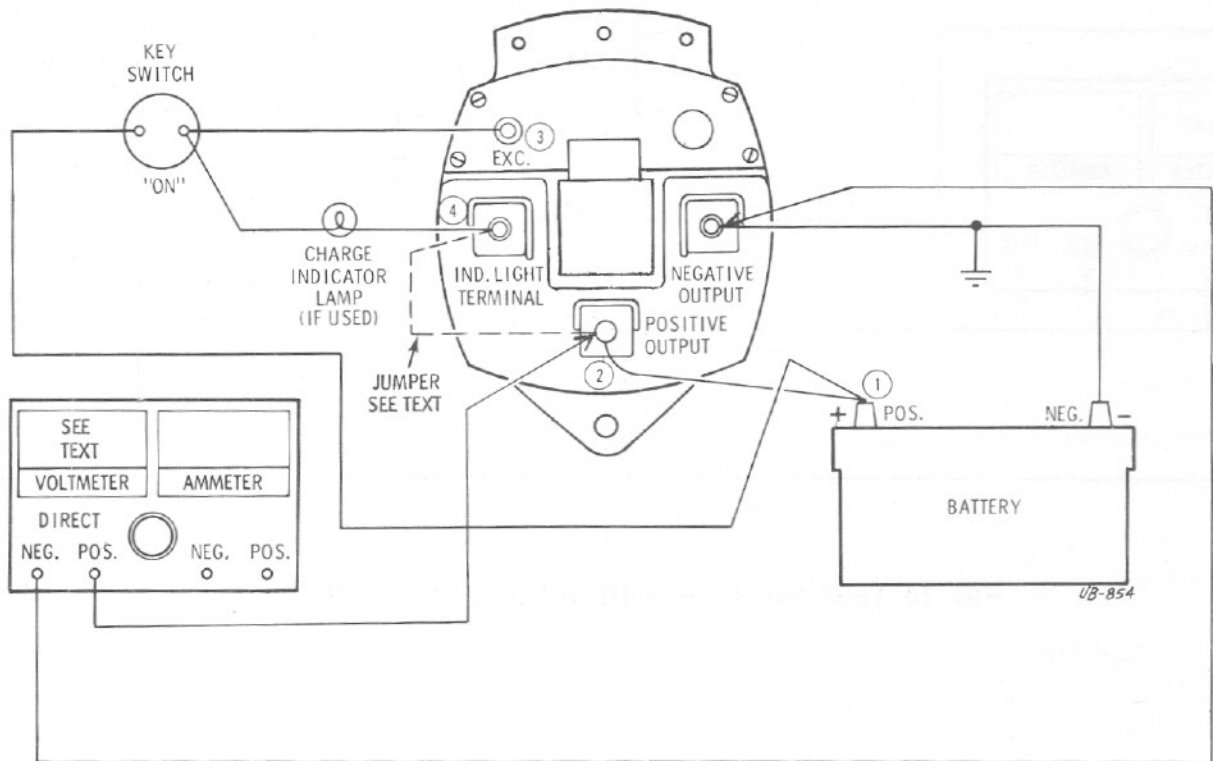

FIG. 17 TEST NO. 2 – FIELD DIODE TEST
- Perform field diode test, see Figure 17.
**CONDITIONS:** ENGINE IDLING – Connect jumper from alternator positive output stud to indicator lite terminal, Figure 17. Connect voltmeter leads to alternator positive and negative output studs.